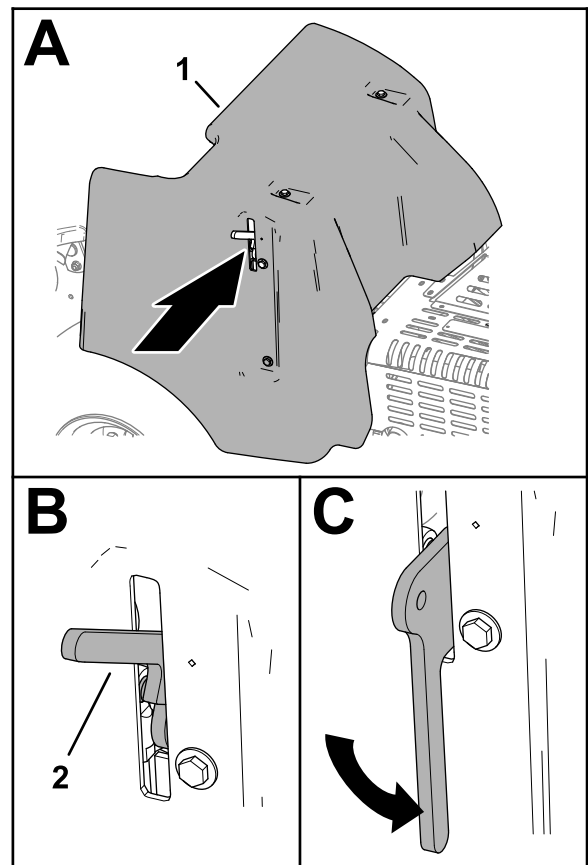

Figure 146
- Fully lower the latch handle to secure the cover (Figure 146).